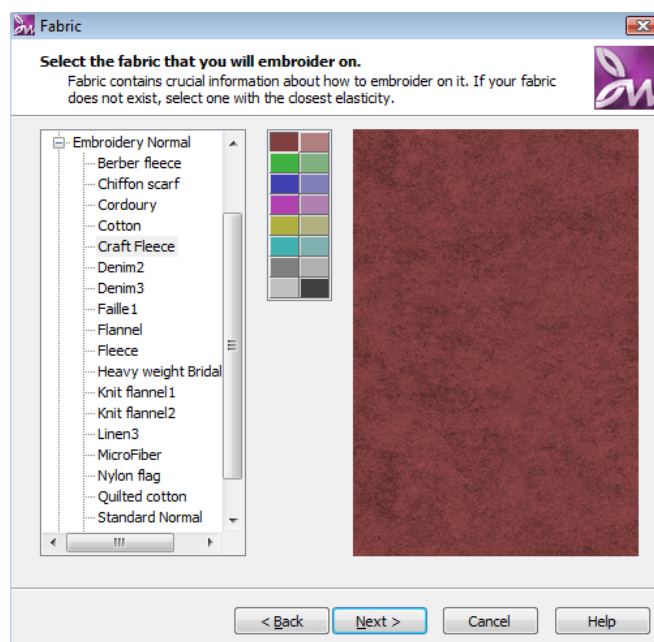

Figure 2.44: Select fabric dialog
- The **Select Fabric** dialog will appear (Figure 2.44). Expand the **Embroidery normal** category from the list at the left by clicking on the + icon next to it.